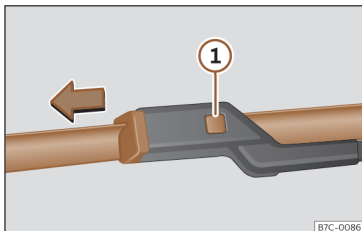

Fig. 41 Changing the windscreen wiper blades
- Press and hold release button >>> **Fig. 41** ❶ and pull gently on the wiper blade in the direction of the arrow.